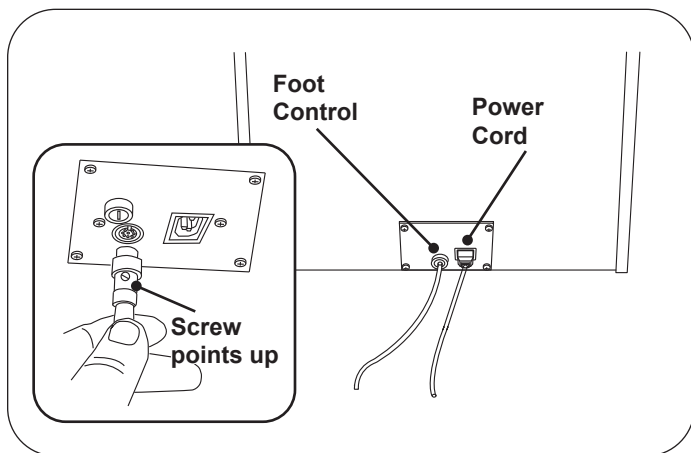
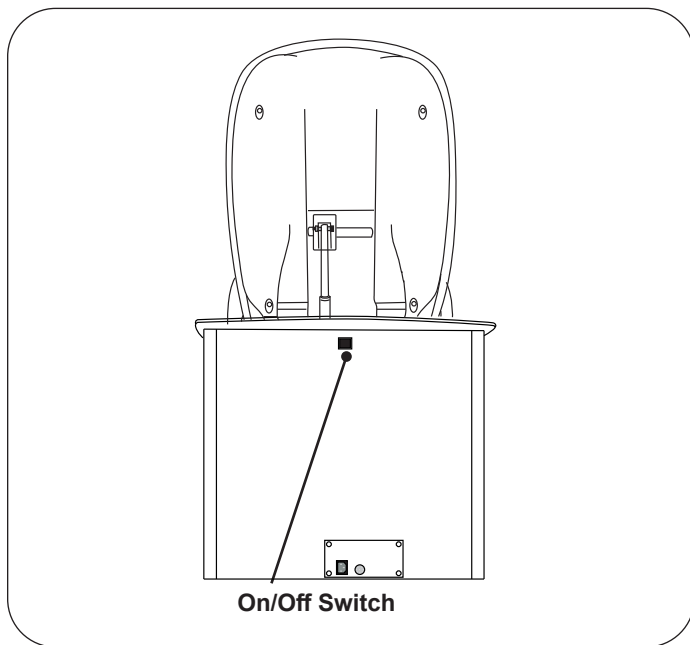

Figure 8. Power Cord and Foot Control Plug-ins
Figure 9. Foot Control On/Off Switch
- Insert the foot control cord into the receptacle at the bottom of the rear panel (Figure 8). Make sure the pins are properly oriented and the plug is fully seated. Turn the locking ring clockwise to secure the plug to the table.
- Plug the female end of the power cord into the receptacle at the bottom of the rear panel (Figure 8). Plug the male end of the power cord into a 115 Volt or 230 Volt grounded receptacle, depending on your configuration. Make sure the black Foot Control On/Off Switch at the back of the table is on (Figure 9).